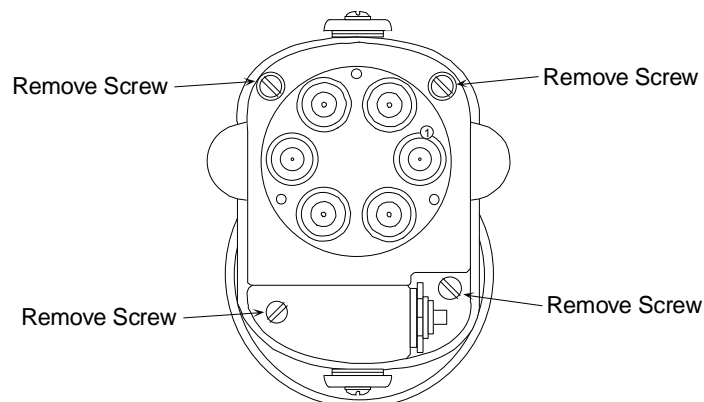

Figure 1
1. Remove the three (3) M-1553 screws that fasten the harness cap to the magneto. Save the screws for reinstallation in step #14.
3. Remove the four (4) housing screws, "O" ring assemblies, and washers. See Figure 1. Discard these parts.